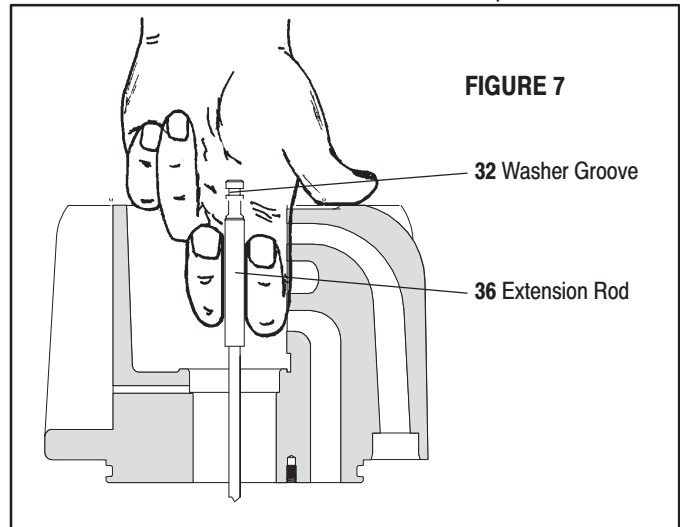

FIGURE 7
23. Slide (40) washer over (36) extension rod.
24. Pull (36) extension rod up and grasp with two fingers (see figure 7 below).
25. Place 90350 special installation tool over (36) extension rod, with turned diameter down and the chamber side up.